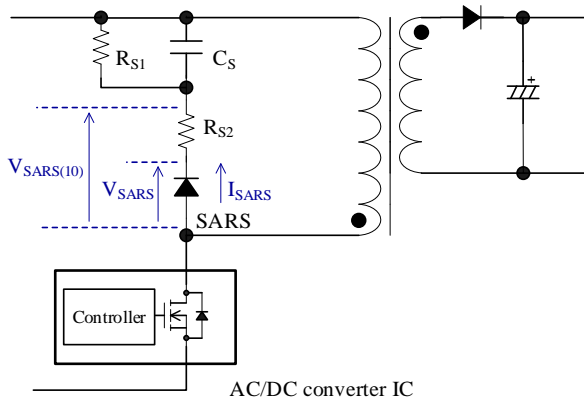
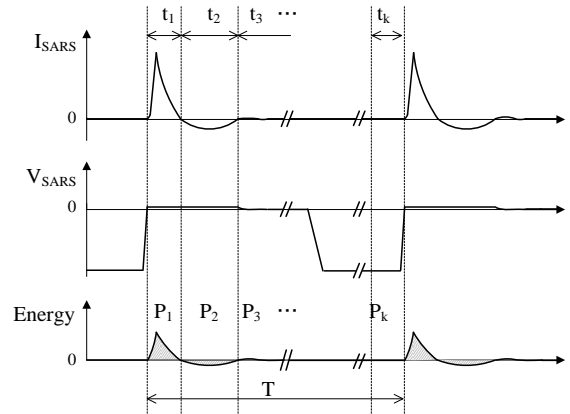

Figure 30. Typical Application
Figure 31. SARS Current
Figure 30 shows a typical application using the SARS. Figure 31 shows the operating waveforms of the SARS.
- 2) The each average energy ( $P_1, P_2 \dots P_k$ ) is measured at period of each polarity of  $V_{SARS} \times I_{SARS}$  ( $t_1, t_2, \dots t_k$ ) as shown in Figure 30 by the automatic measurement function of the oscilloscope.
- 3) The power dissipation of the SARS,  $P_{SARS}$ , is calculated by Equation (1):